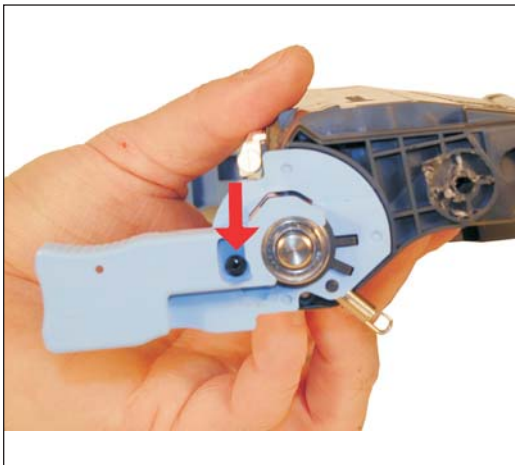

Figure 23
8) Remove the screw on the handle, the handle, and the spring. See Figures 23 & 24